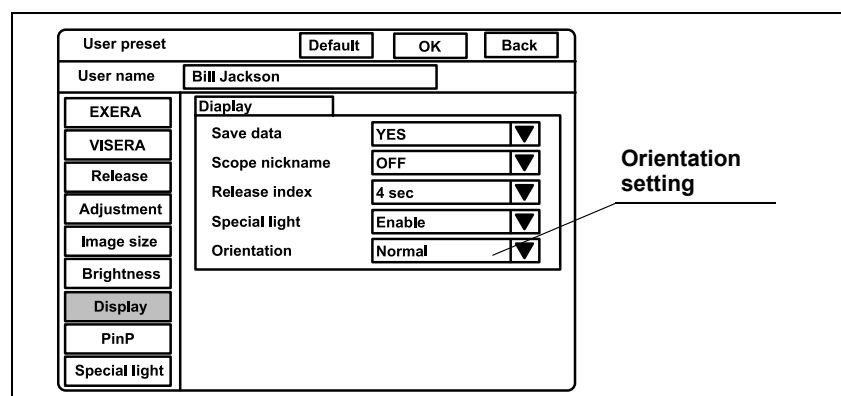

Figure 9.39
1. Click “ ▼ ” of “Orientation” (see Figure 9.39). The settings of “Normal” and “Rotation” appear in the pull-down menu.